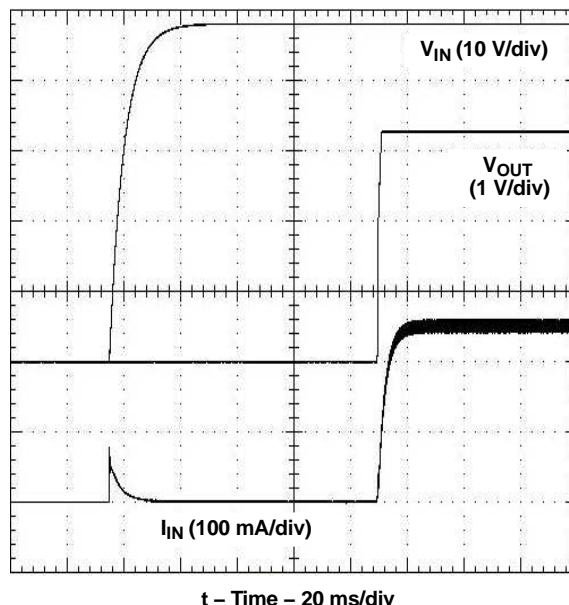

Figure 13. Power-up Waveforms
**Figure 13** shows the power-up characteristic of a PTMA403033 converter. The output voltage is 3.3 V. The soft-start circuit causes a slow, soft rise of the output voltage. The output voltage will begin to rise after a time delay (typically 85 ms-100 ms) once a valid input voltage is applied. The output then progressively rises to the voltage set-point. The waveforms were recorded with a resistive load of 3 A.